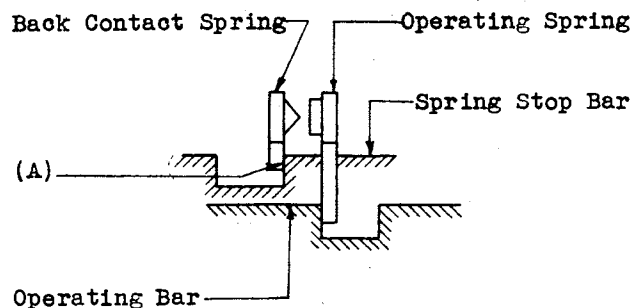

Fig. 10
(a) Break Spring Combination - Fig. 10 (A) - With the operating bar in the operated position the pressure of the back contact spring tang against the side of the notch in the spring stop bar further from the cam roller shall be: